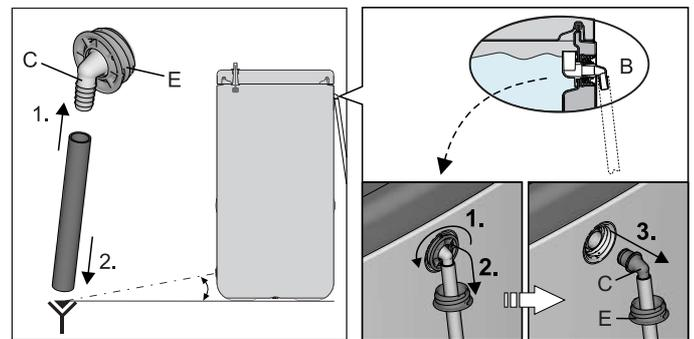

Fig. 5-3 Work step 1
- Remove hose connection piece (fig. 5-3, item C) from safety overflow (fig. 5-3, item B).